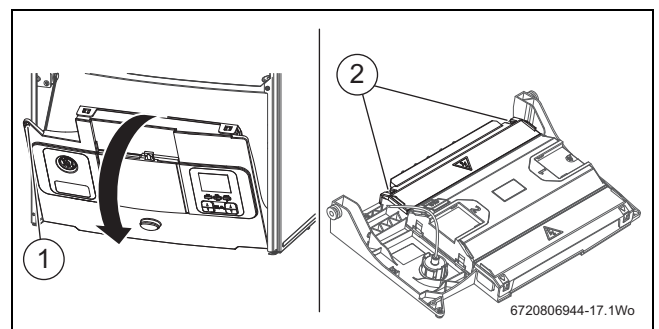

Fig. 39 Moving control panel into the service position
- ▶ Remove appliance casing to access control panel (→ section 5.3.1). Refer to figure 39.